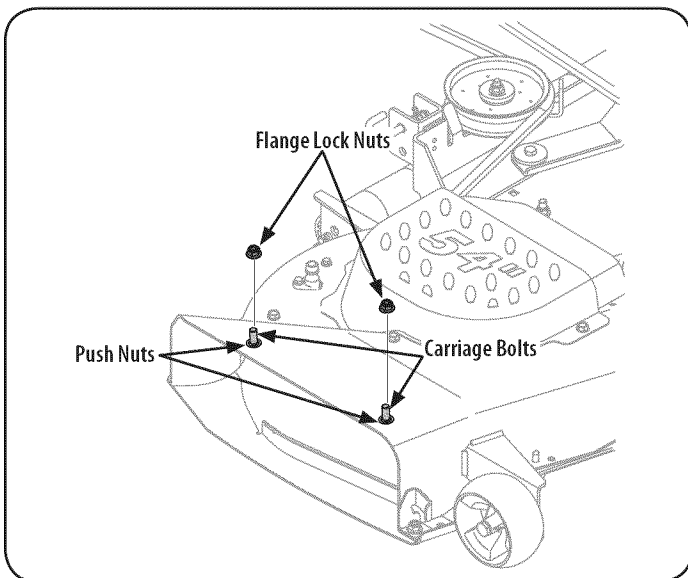

Figure 6
2. Remove the flange lock nuts from the deck. Do not remove the push nuts or carriage bolts, leaving them in place will aid in installing the chute. See Figure 6.